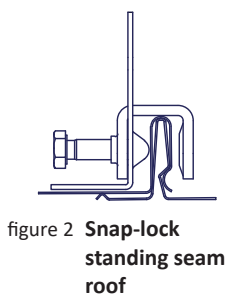
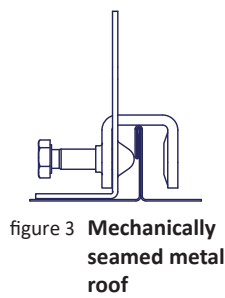
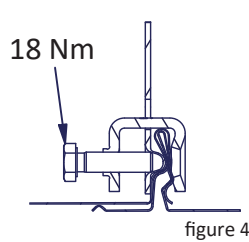
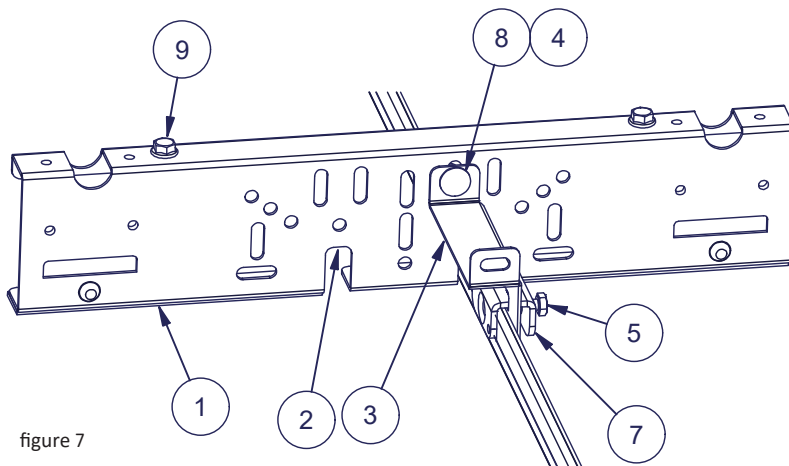

figure 2 **Snap-lock standing seam roof**
figure 3 **Mechanically seamed metal roof**
figure 4
figure 7
Place EPDM sealant strip or alternatively Pisko 2+1 sealants (1) (2/fastener) to the bottom of the Pisko MultiFast fastener (2). Attach MultiFast fasteners to roof walkway with M8 flange nut (9). MultiFast fastener is installed on the seam of the roof using bracket for seam roofs (3) and SG tightening clamp (7) (figure 7). Slide the tightening clamp into the hole in the bracket. On snap-lock standing seam roof the bolt side of the tightening clamp is placed on the intact side of the seam (figure 2) and on mechanically seamed metal roof it is placed on the folded side of the seam (figure 3).
Roof seam is inserted into one of the two mounting holes on the MultiFast fastener. Bracket for seam roofs is installed on the ridge side of the MultiFast fastener and these are secured together with M8x20 carriage bolt (8) and M8 flange nut (4)(figure 7). Tighten the M8 bolt in the tightening clamp to 18 Nm, allowing the tightening clamp to spread out a bit, in order to create a tight long-lasting connection (figure 4).